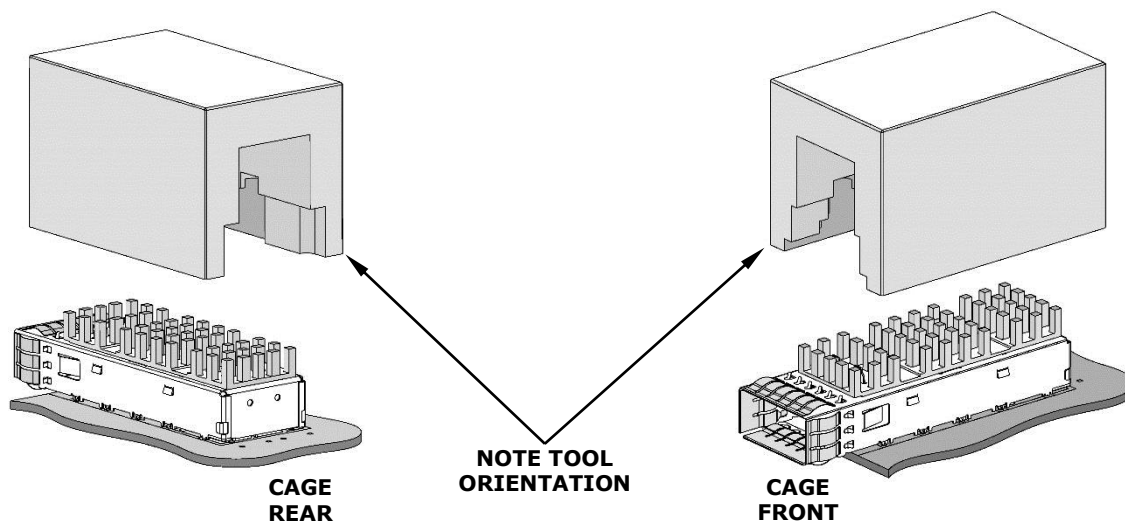

Figure 2
2. Place the tool on the cage assembly, oriented as shown in Figure 2.